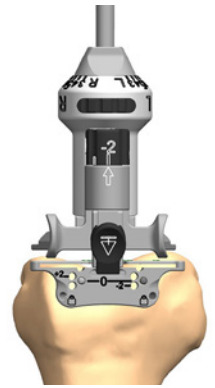

Figure 8
1. With the Adjustable Valgus Bridge dial set to 0mm, using non-headed 65mm SPEED PIN[®](s), pin the distal femoral cutting block to the anterior femur using the holes marked '0'. Once adequate distal femoral resection is noted, headed or non-headed 65mm SPEED PIN(s) should be placed in one or both oblique pin holes for additional stability (Figure 8).